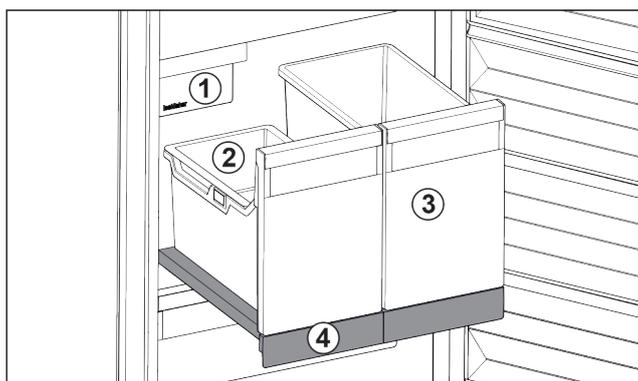

Fig. 22 Pull-out board with IceTower
There are two high (IceTower) containers on the pull-out board. Ice cubes from the IceMaker are collected and stored in the Fig. 22 (2) container. The container Fig. 22 (3) is suitable for storing tall foodstuffs or beverages such as pizzas or alcoholic drinks.